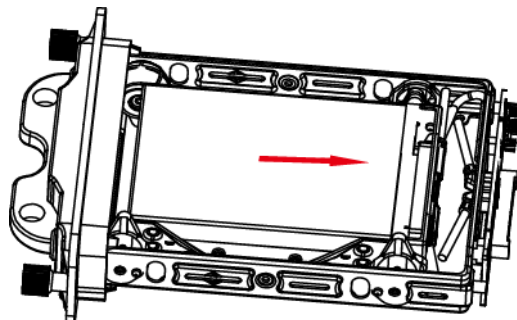

Figure 3-4 Push HDD
Step 5 Push the HDD along the direction shown in Figure 3-4 to connect HDD with socket of dummy HDD.